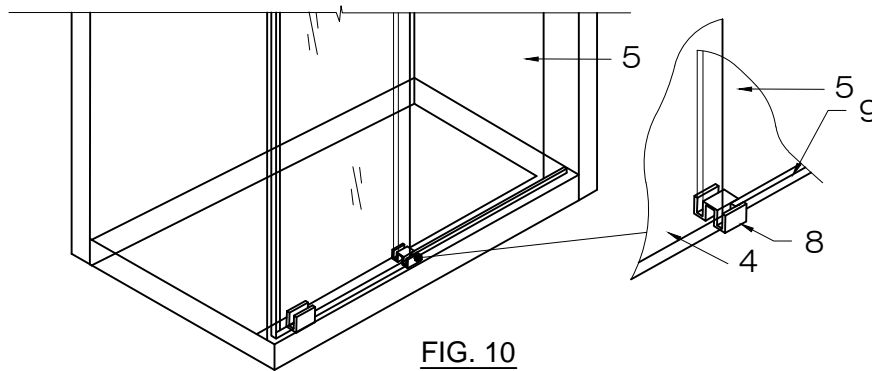

FIG. 10
4. Verify that the bottom of the door aligns with the notch in the bottom door guide (SEE FIG. 10).